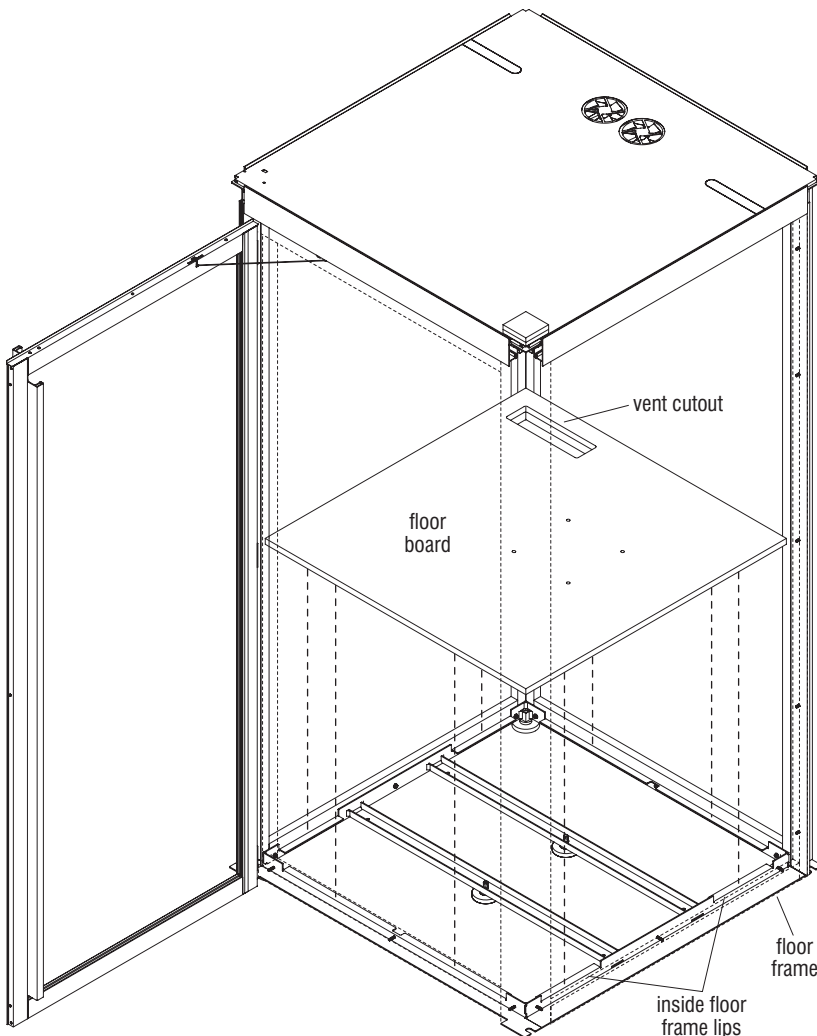

Figure 23
3. Position the floorboard inside the pod in the upright position and carefully set in place on top of the inside floor frame lips, taking care to orient the vent cutout correctly, at the back wall, same side as the door opening orientation (Figure 23).